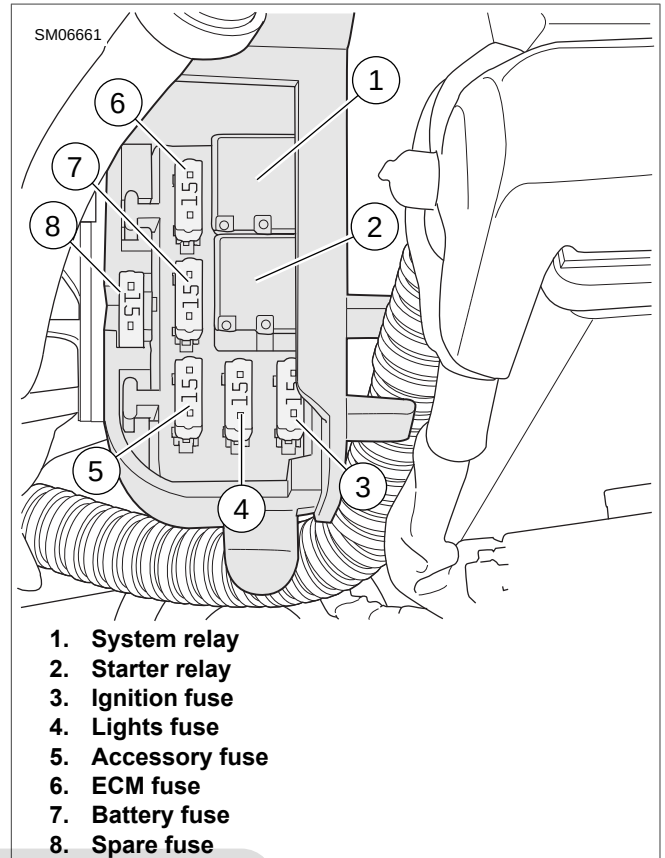

Figure 6-3. Relay/Fuse Block (typical)
See Figure 6-3. The electrical system relay/fuse block is located in front of the battery under the left side cover. The relays and fuses are mounted in the relay/fuse block. All fuses are rated at 15 amperes.
2. See Figure 6-3. Remove suspect fuse (3-7).
2. See Figure 6-3. To unplug old relay (1 or 2), grasp body of relay and with a gentle rocking motion, pull straight out from relay/fuse block.